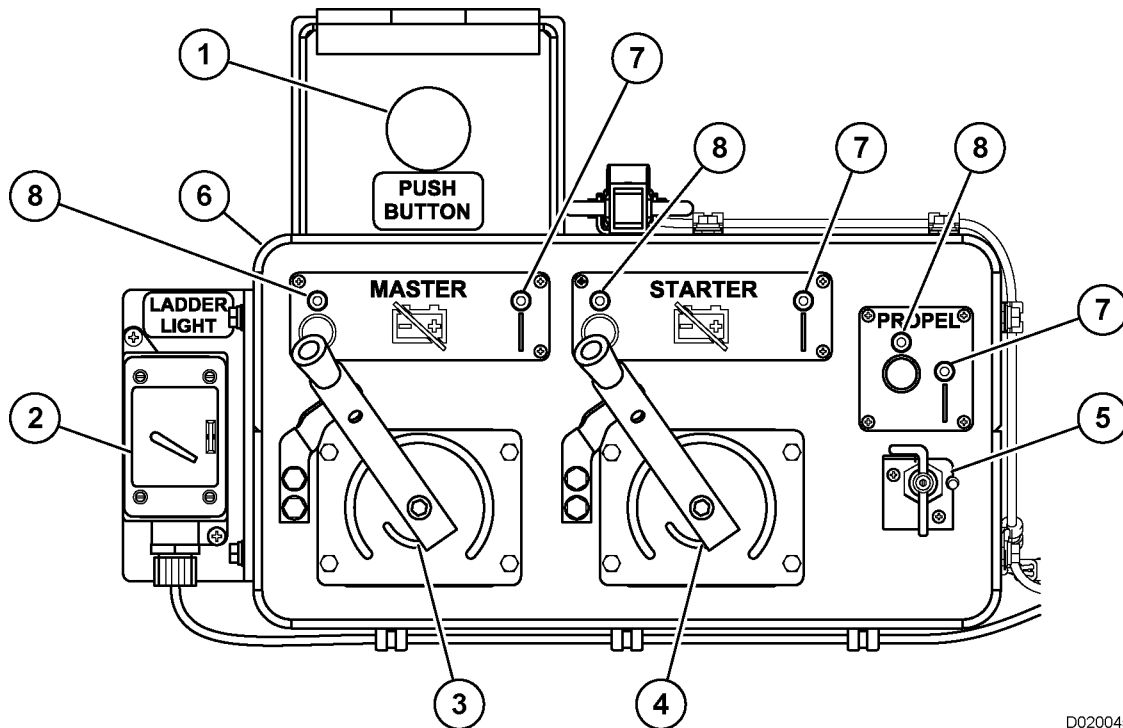

FIGURE 3-2. ISOLATION BOX ASSEMBLY (COVERS REMOVED)
- Ensure the key switch and master battery disconnect switch (3, Figure 3-2) on the disabled machine is in the OFF position.
- Move the master battery disconnect switch (3, Figure 3-2) to the ON position. Allow time for the batteries to charge.
- Turn the master battery disconnect switch (3, Figure 3-2) to the ON position and attempt starting.
- If the engine must be operated during maintenance, always move the directional control lever to the PARK position (this will apply the parking brake). Always perform this work with two people. One person must be in the operator's seat to stop the engine if necessary. Never move any controls not related to the task at hand during these situations. Apply the propel lockout lever (5, Figure 3-2) to prevent the truck from moving if the engine must operate during maintenance. When the propel lockout lever is in the OFF position and LED light (8) is illuminated, the drive system is locked out and the truck will not propel. When the propel lockout lever is in the ON position and LED light (7) is illuminated, the drive system is active and the truck can be driven.
- Isolation box (6, Figure 3-2) contains master disconnect switch (3), starter disconnect switch (4) and propel lockout lever (5). The isolation box is located on top of the front bumper, on the left hand side. Move both disconnect switches and the propel lockout lever to the OFF position to disable the 24VDC electrical system, starters and the AC electric drive system. When the switches and propel lockout lever are in the OFF position, LED lights (8) will be illuminated. The battery disconnect switches and propel lockout lever can be padlocked in the OFF position to prevent unauthorized truck operation. When the switches and the propel lockout lever are in the ON position, LED lights (7) will be illuminated. Refer to the following table to ensure the correct disconnect is used to isolate a desired circuit or system.